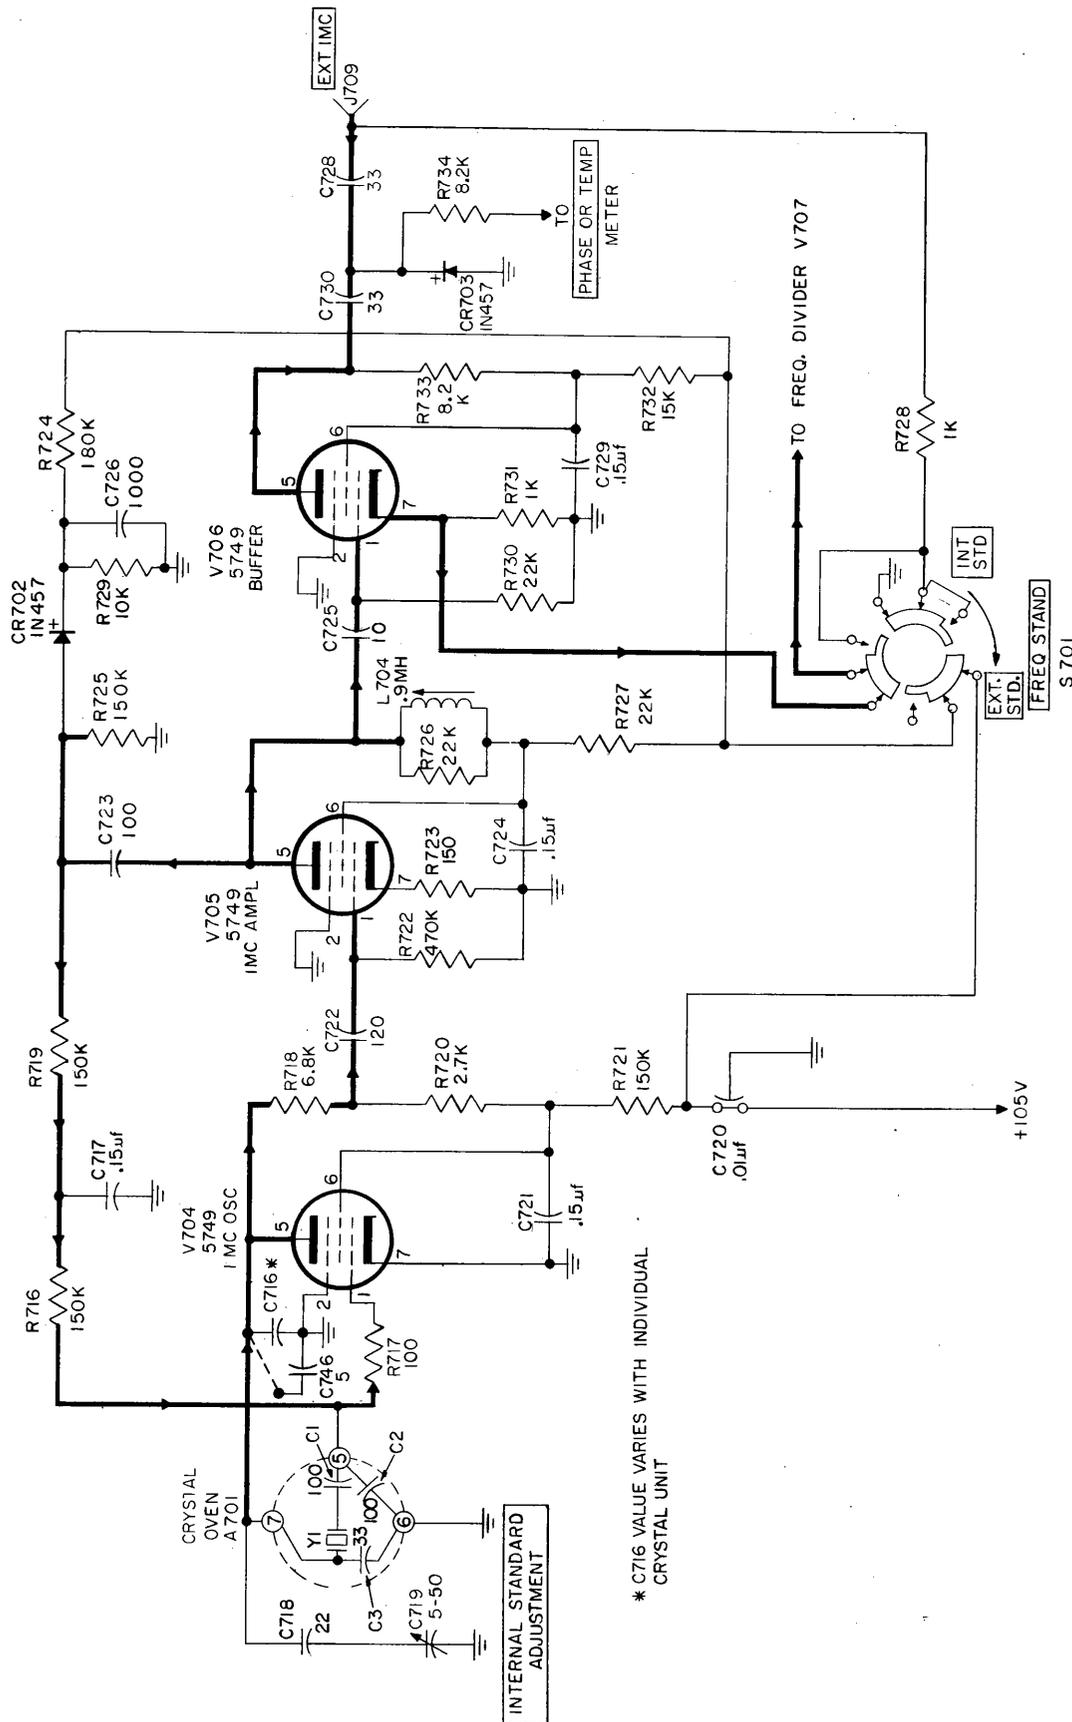

Figure 4-39. Crystal Oscillator-Amplifier, Simplified Schematic Diagram
b. CRYSTAL OSCILLATOR-AMPLIFIER. (See figure 4-39.)—The crystal oscillator-amplifier circuit produces the standard 1 mc frequency from which, through division, the 100 kc output of the crystal oscillator section is derived. It consists of crystal oscillator V704, 1 mc amplifier V705, and buffer V706.